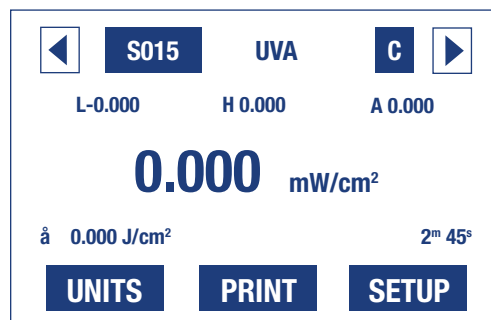

Figure 2 UVA Sensor in DCS Mode With Min/Max and Dose Integration Enabled
Refer to Figure 2. In the DCS mode the sensor modifies the functionality of the PMA2100 converting it to a Dose Control System.
- 4 Press the **Esc** key to return the main display shown in Figure 2. Notice the function of the F2 key has changed from Print to DCS.